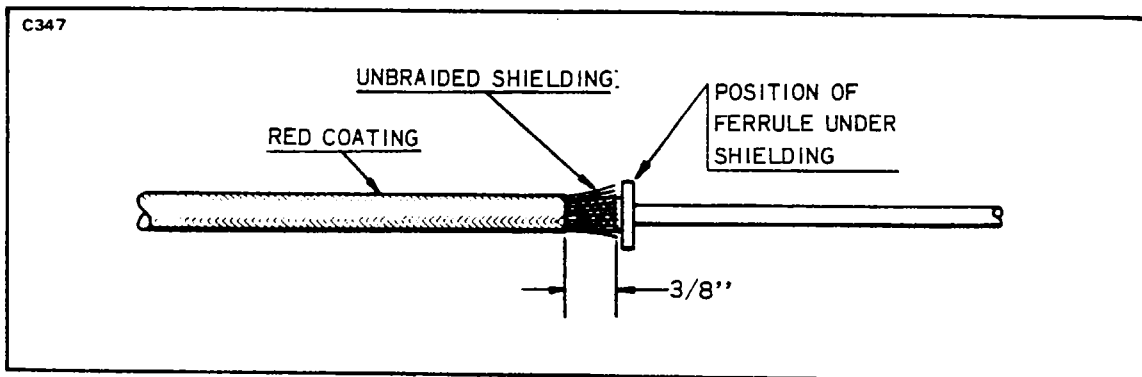
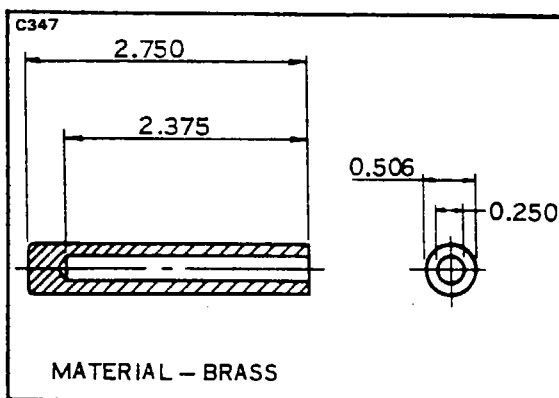

Figure 8-23. Forming Shielding Around Ferrule
Figure 8-24. Ferrule Seating Tool
11. Pass the taped end of new lead through hole in outlet plate. Remove electrical tape from lead and install tapered end of ferrule under the unbraided strands of shielding. Form strands of shielding evenly around tapered ferrule as shown in Figure 8-23 and pull lead assembly back through cable outlet plate until ferrule binds in the outlet well. Position the Scintilla 11-7074 Ferrule Seating Tool (Figure 8-24) over the wire and firmly seat the ferrule by tapping the seating tool with a hammer or by using an arbor press.